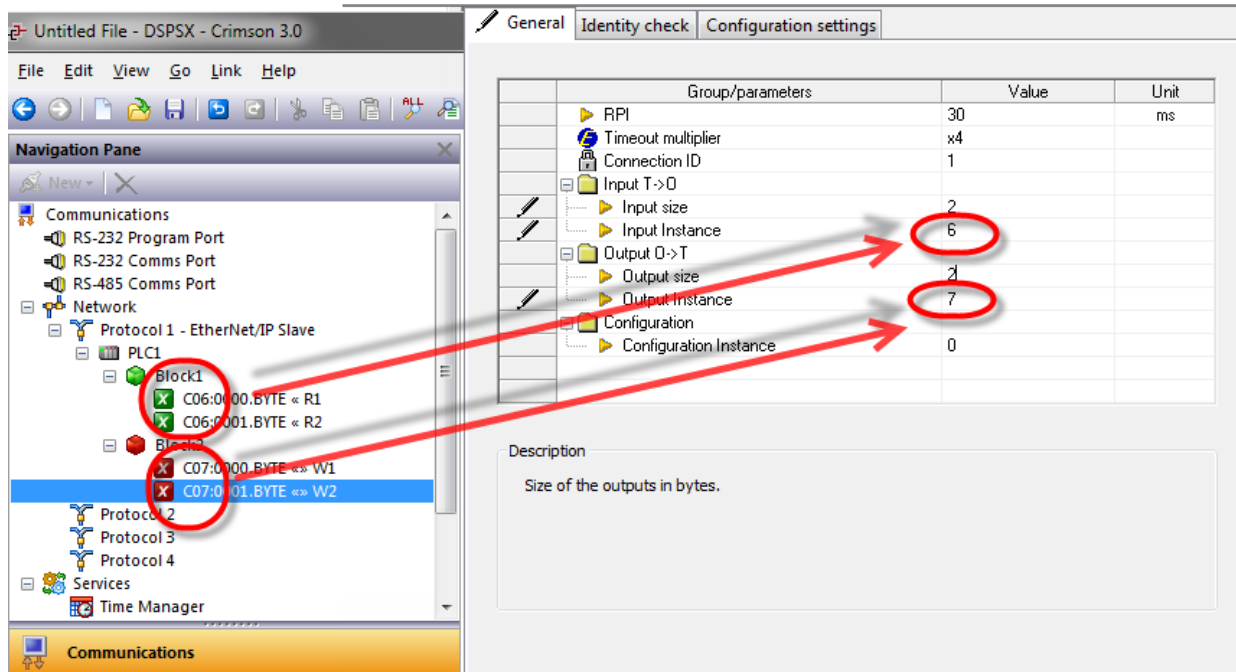

Figure 23.
- b. Referring to Figure 23, go the Input Instance : field and enter the Input Instance number; 6 in this example.
- c. Referring to Figure 23, go the Output Instance : field and enter the Output Instance number; 7 in this example.